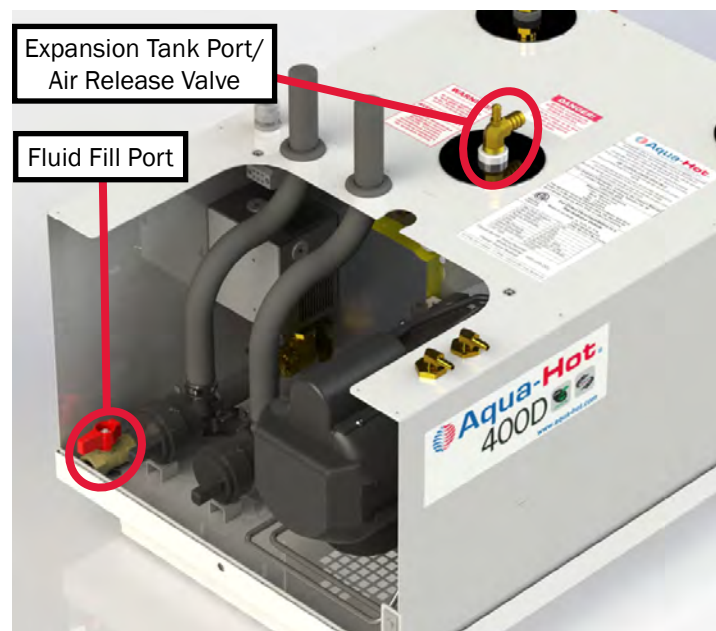

Figure 169
3. Open the Aqua-Hot’s drain valve located at the front of the heater. Reference Figure 169.
2. Open the Aqua-Hot’s drain valve located at the front of the heater. See Figure 169.